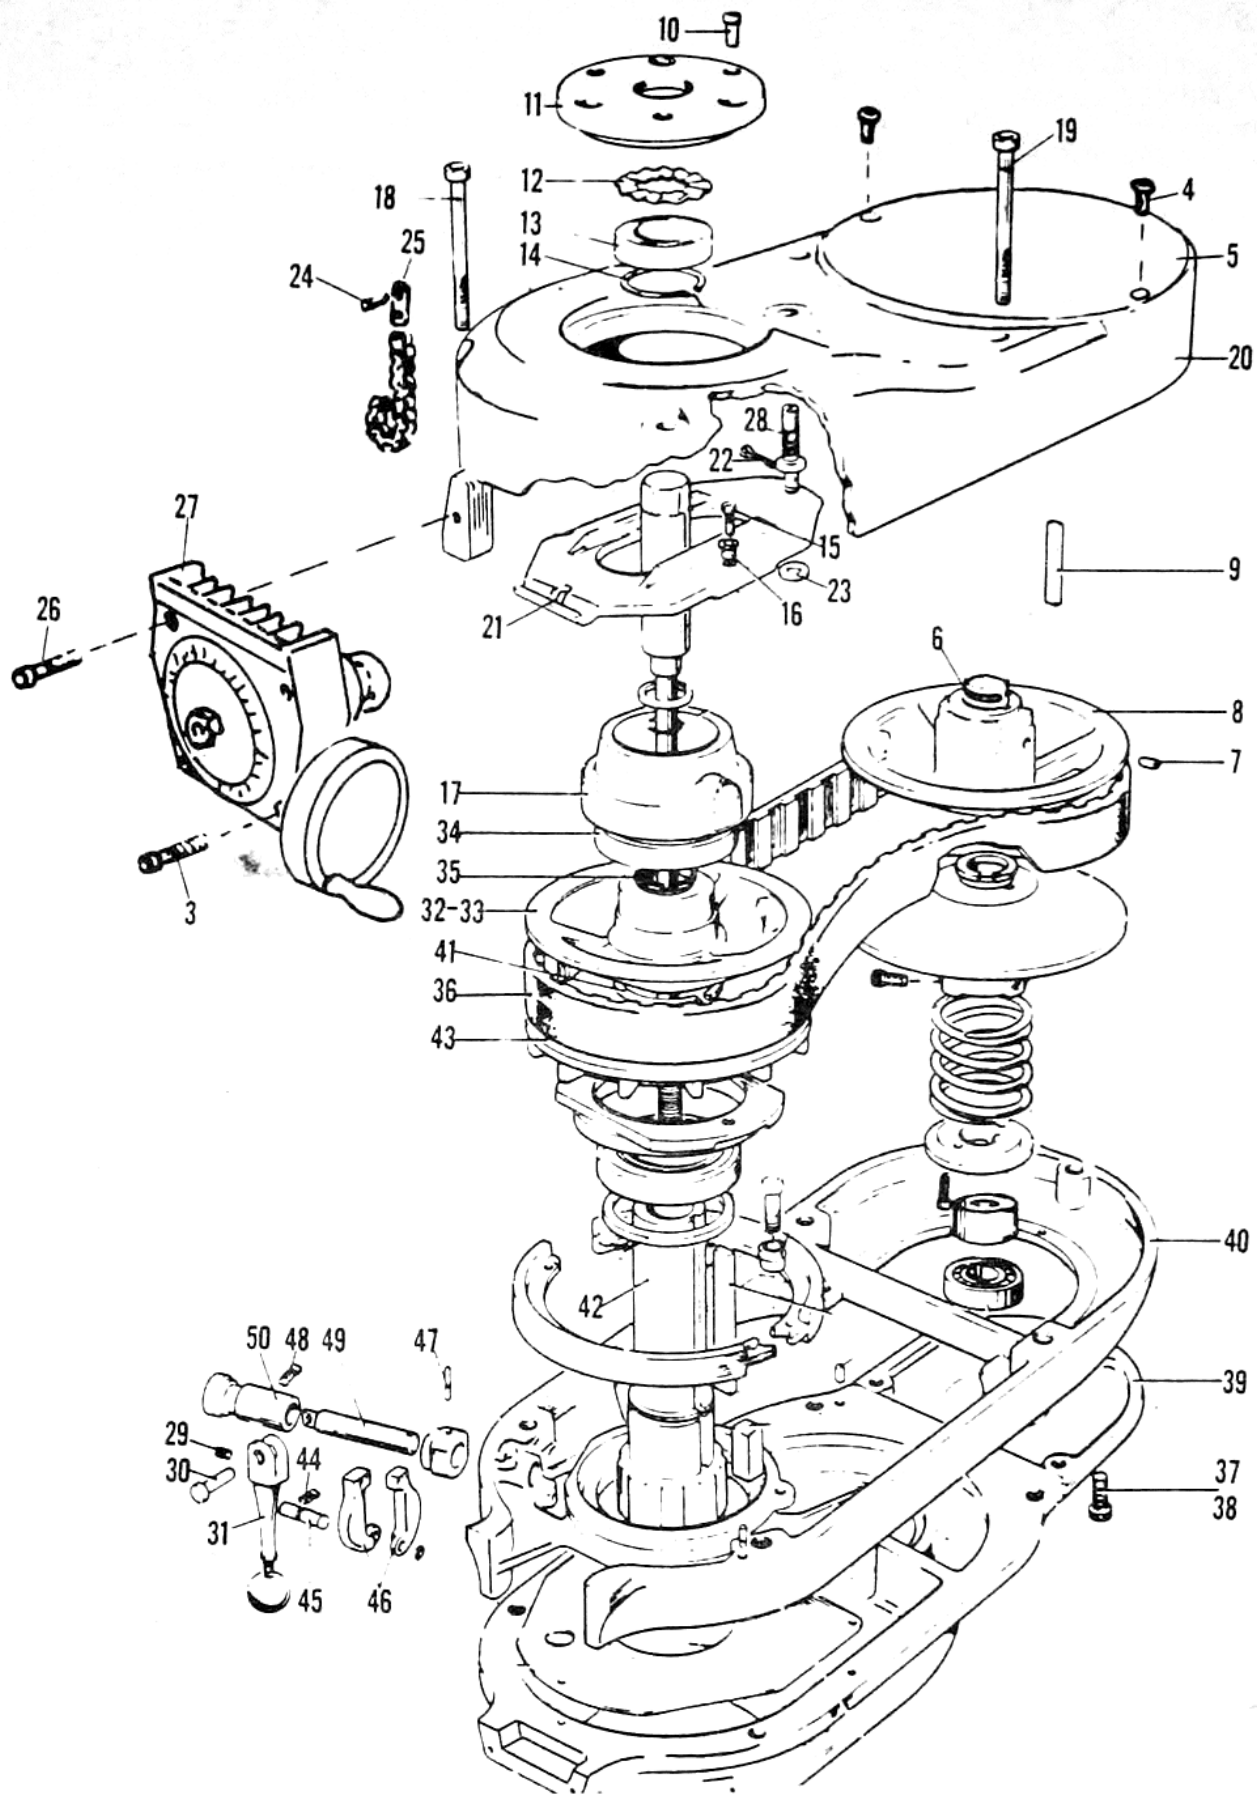

Figure 11-7 Removal of Brake Lock Mark II
11.9 REMOVAL OF BRAKE LOCK MARK II—Figure 11-7
11.10 REASSEMBLY OF BRAKE LOCK MARK II—Figure 11-7 and 11-8
6. Press in the hub 2-55-0012 (42).
7. Mount the belt housing base (77-0163) to the gear housing 77-0162 (39) with two socket head cap screws 1-01-1056 (37) and three socket head cap screws 1-72-1060 (38).
8. Install the belt 1-18-2120 (36).
9. Next install the pulley 2-18-0081 (32) and its related items:
- a. Two bushings 1-18-2124 (35).
- b. Bearing 1-18-0253 (34).
- c. Key 1-18-2122 (33).
- d. Housing 1-18-2124 (17).
10. Assemble the pneumatic speed changer 77-0800 or manual speed changer 77-0176 (Figure 11-8) to the belt housing base (77-0163) with two socket head cap screws 1-01-1037 (3, Figure 11-7).
11. Insert the chain stud 2-18-0066 (24) and pin 1-01-0534 (25) into the slot on the speed changer plate 2-18-0058 (21).
12. Center the pin 1-01-0534 (25) through the chain stud by using a pair of pliers.
13. Slide the speed change plate 2-18-0058 (21) over the pivot 2-18-0074 (28) and secure it with washer 2-18-0095 (23) and pin 1-01-0604 (22).
14. The belt housing (20) can now be mounted to the 2 hp head with two socket head cap screws 1-01-1069 (18) and three socket head cap screws 1-01-1065 (19).
15. Attach the speed change plate 2-18-0058 (21) to the housing (17) with two sleeves 2-18-0089 (16) and two socket head cap screws 1-01-1125 (15).
- a. Retaining ring 1-18-0848 (14).
- b. Bearing 1-18-0252 (13).
- c. Spring washer 1-18-1977 (12).
- d. Bearing cap 2-18-0094 (11).
- e. Three socket head cap screws 1-01-1033 (10).
17. Secure the speed changer to the belt housing 77-0164 (20, Figure 11-7) with two socket head cap screws 1-01-1037 (26).
- a. Pulley 77-0082 (8).
- b. Key 2-55-0007 (9).
- c. Snap ring 1-01-0880 (6).
- d. Socket set screw 1-01-1222 (7).
- e. Cover 77-0195 (5).
- f. Four button head cap screws 1-98-0449 (4).